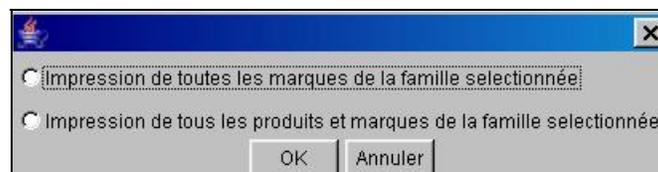

Figure 11: Printing options
- Select a group then click on the button, the print dialogue box appears (figure 11).